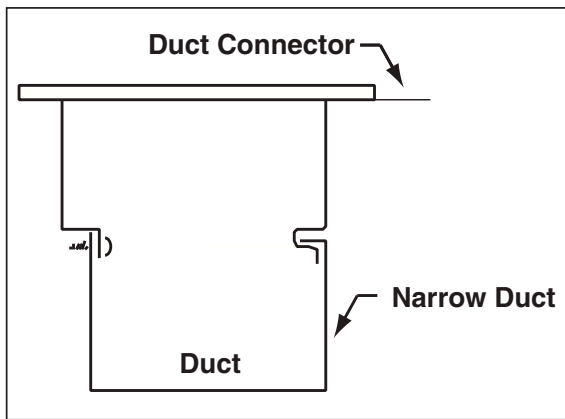

Figure 11. Alternate Duct Connector Installation C
1. Attach tabs to sides of duct (one on each side) using sheet metal fasteners or other method, ensuring that the duct connector is secure and sealed to the duct (see Figure 11).